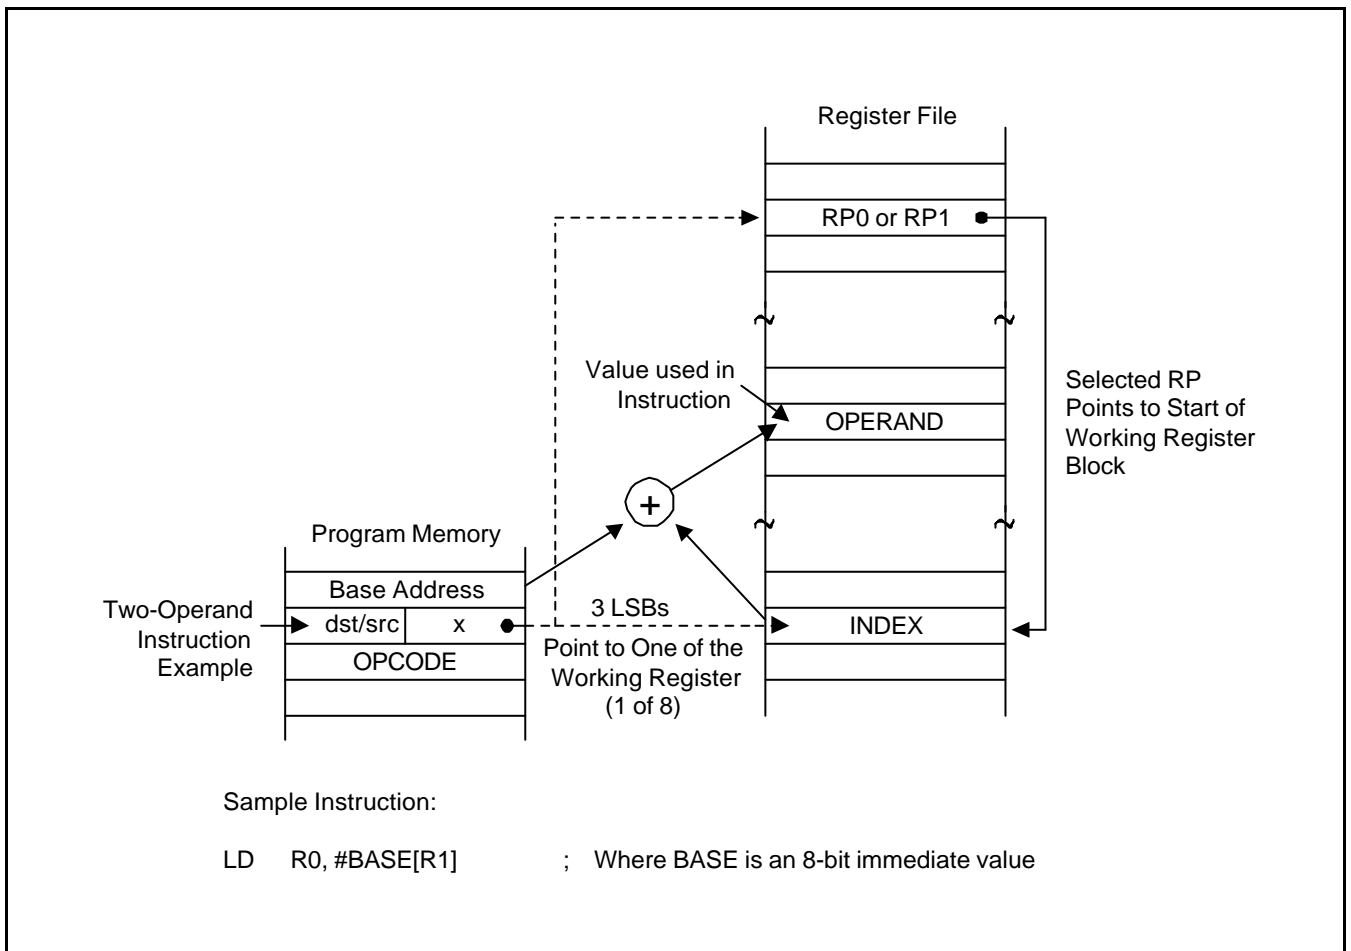

Figure 3-7. Indexed Addressing to Register File
Indexed (X) addressing mode adds an offset value to a base address during the instruction execution in order to calculate the effective operand address (see Figure 3-7). You can use Indexed addressing mode to access locations in the internal register file or in external memory. You cannot, however, access the locations C0H–FFH in set 1 using Indexed addressing mode.